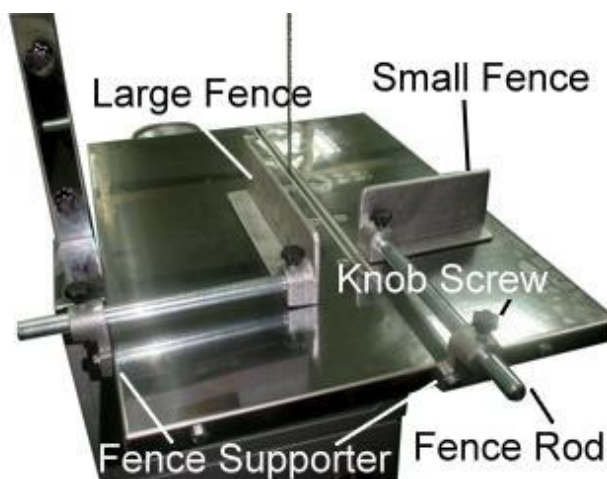

Fig.16
3. Attach the large fence into the supporter on the left, and the small fence into the supporter in front with knob screws as shown in (Fig.16)